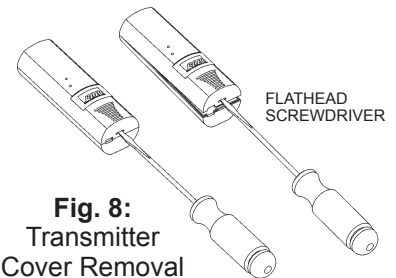

Fig. 8: Transmitter Cover Removal
2. Remove the back plate by inserting a small thin screwdriver in the bottom slot and pushing gently. Then swing the cover up and off (Fig. 8).
1. Remove the back plate by inserting a small thin screwdriver in the bottom slot and pushing gently. Then swing the cover up and off (Fig. 8).
1. Replacement requires the removal of the back plate by inserting a small thin screw driver in the bottom slot and gently push then swing the cover up and off (Fig. 8).